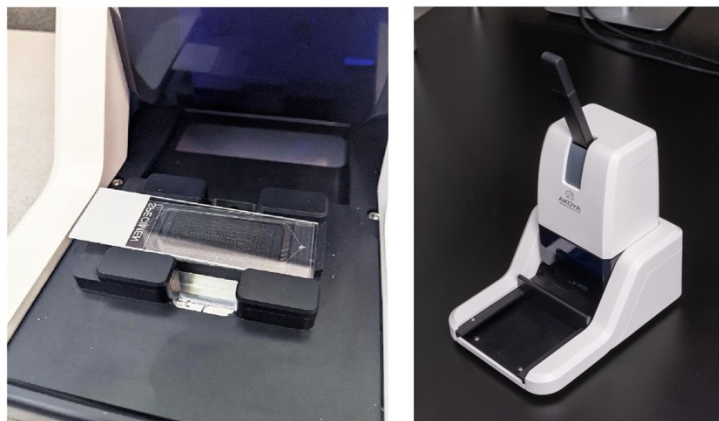

Figure 3.16. Flow Cell and Slide ready for assembly (left). The Flow Cell in the Assembly Device with the drawer in the close/assembly position (right).
16. Gently slide the drawer all the way into the close/assembly position. (See Figure 3.16, right.)